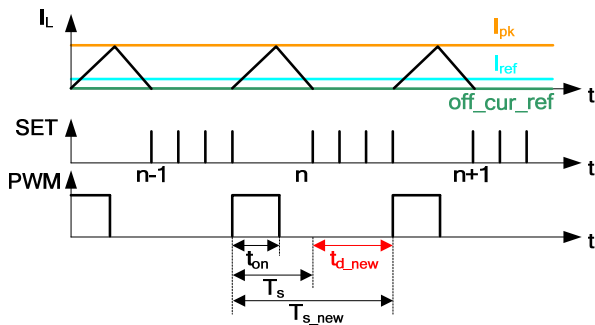

Figure 25: Td Control Signals
As shown in Figure 25, T_d_filter is implemented on the calculation of the delay time. It helps reduce the current distortion in DCM operations. With T_d_filter , the new delay time can be calculated with Equation (18):